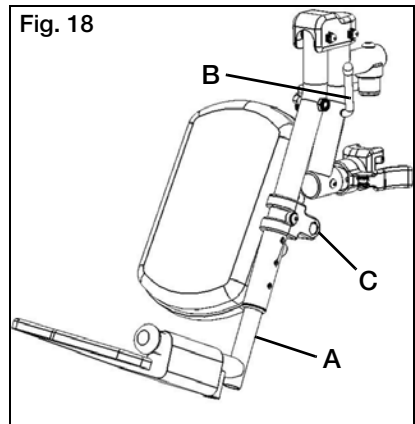

Fig. 18
- Remove mounting bolt that is threaded into the leg rest tube in the center of the pad bracket (Fig. 18:C). In some circumstances this bolt may be inserted in the tube below the pivot bracket.
- To raise, lift up on the rear of the extension tube (Fig. 18:A). The rod will slide through the ratchet in this direction. Stop at desired position.
- To lower, firmly hold the leg from behind the extension tube (Fig. 18:A). Pull forward on the lever (Fig. 18:B) and while holding the lever, lift the leg rest. Releasing the lever will cause the leg rest to lock into position.